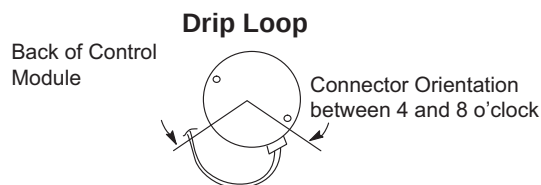

Figure 19.
- 5 - The electrical connectors of the motor should be facing down to form a drip loop (**FIGURE 19**). This will directs moisture away from the motor and its electric connections on the motor.